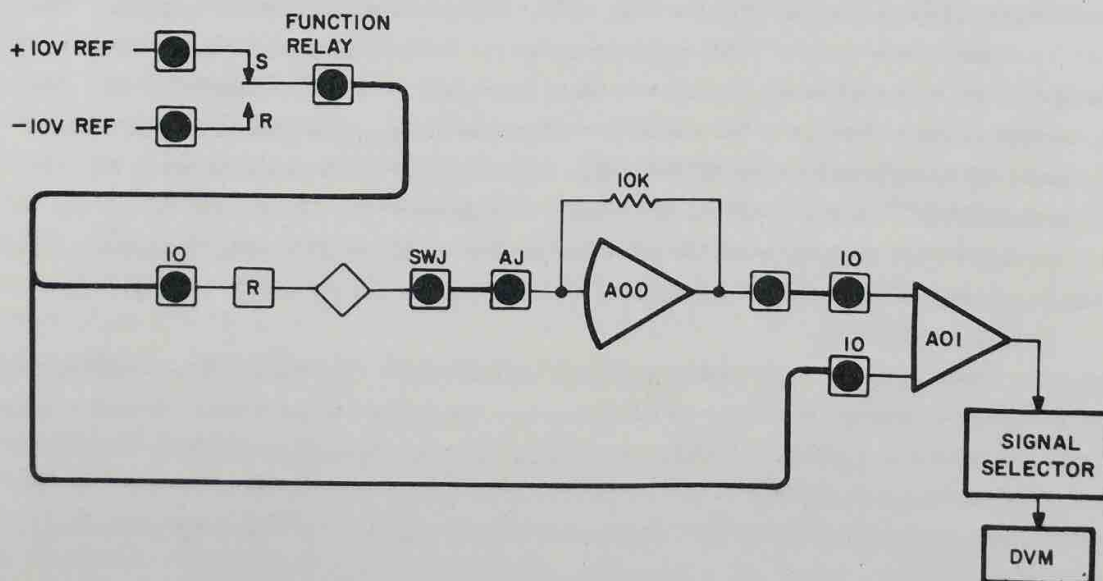

Figure 2.7. D/A Switch Adjustment Circuit
1. Connect the circuit of Figure 2.7. Carefully balance the amplifiers. Address A01 for readout by the DVM.